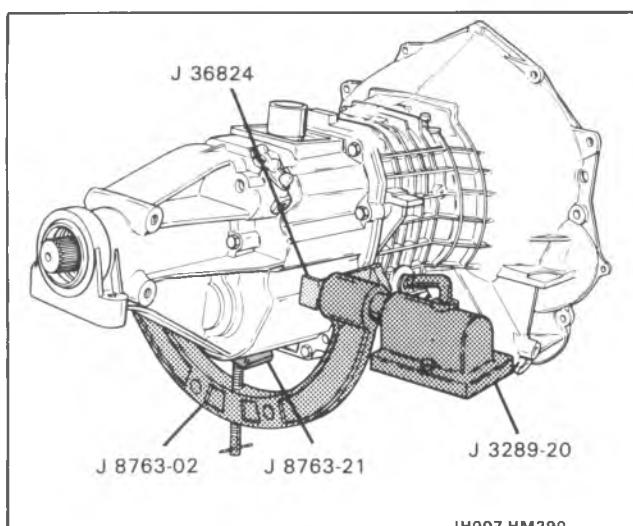

Figure 6 Holding Fixture Installed
- J 8763-21 onto J 8763-02 (Figure 6)